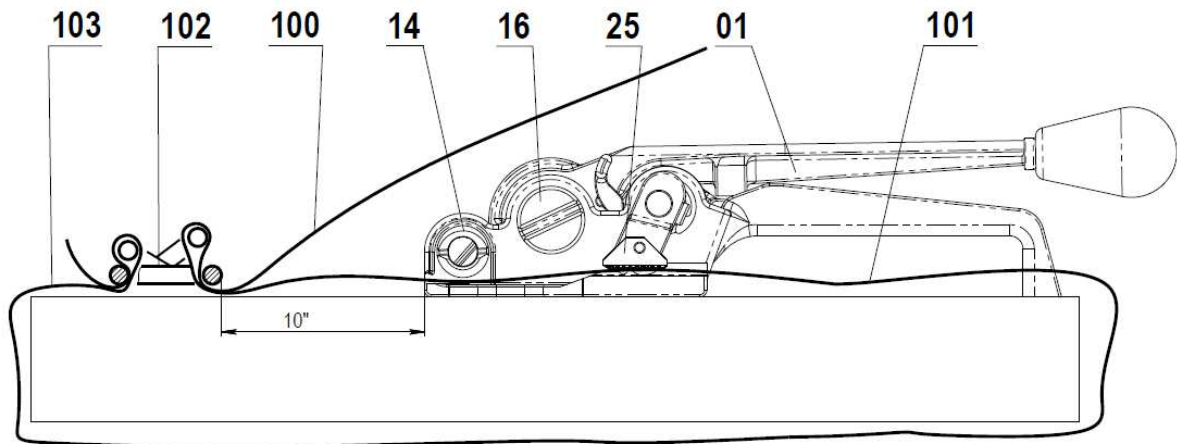

Fig.2
1. Wrap the strap around the package. Load one end of the strap into the **Buckle 100**. Load the other **End 102** into **Buckle 100**. Manually, take out the excess strap by pulling on **End 102**. Place the **MUL-375** approximately 10" out of the **Buckle 100** as shown on Fig. 2.